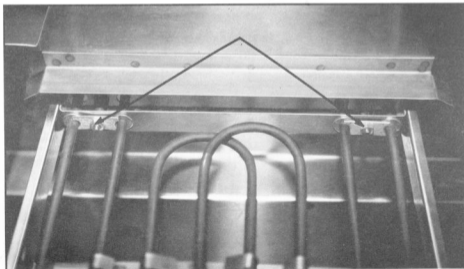

Figure 16
4. On the left side only, remove the 2 heater element retainer screws and nuts. Note the proper orientation of spacers and retainer brackets. (See Figure 16)